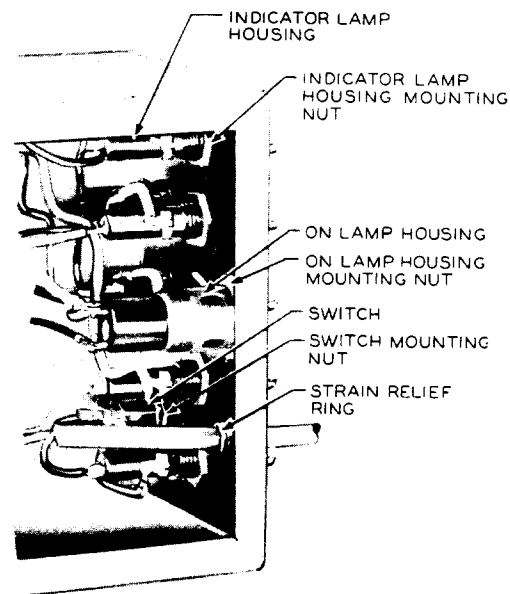

Fig. 10 — KS-14778 Photo Processor — Partial View With Access Panel Removed Showing Lamp Housings, Switches, and Associated Parts
3.13 ON Lamp Housing and Cap: Remove the ON lamp and cap as covered in 3.17. Remove the access panel from the bottom of the control panel as covered in 3.04. Loosen the lamp housing mounting nut (Fig. 10) using the R-2718 plier wrench, and rotate the housing to gain access to the terminal screws. Disconnect the leads with the 4-inch regular screwdriver. Remove the mounting nut from the housing and remove the